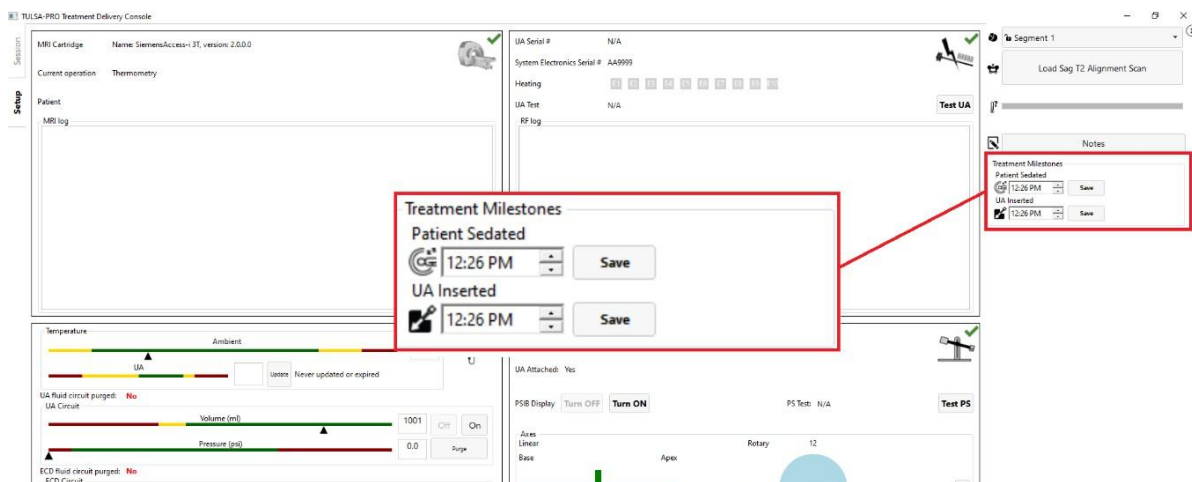

Figure 29: Entering Treatment Milestones in the TDC Setup Workspace
1. In the TDC *Setup* Workspace, enter the sedation and UA insertion times under **Treatment Milestones** (Figure 29).